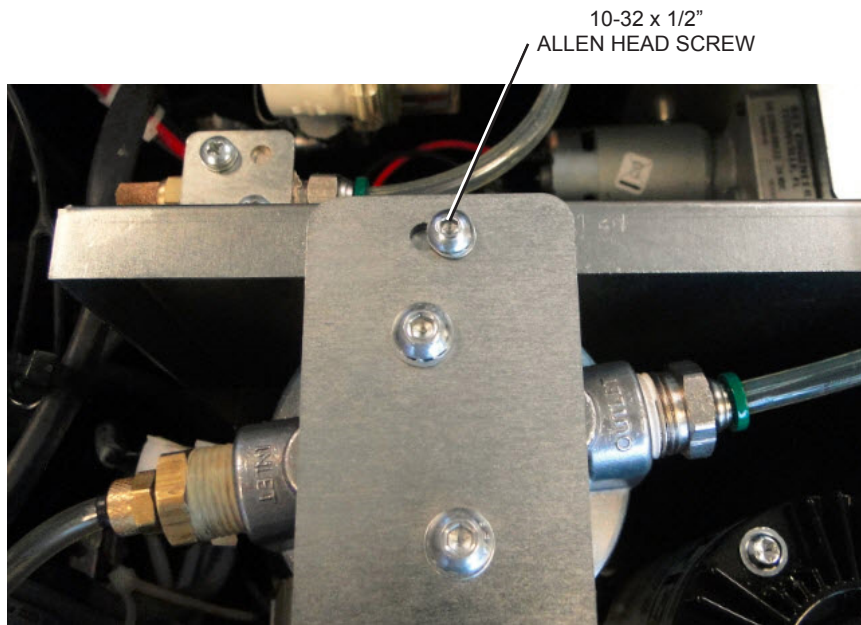

Figure 1
3. Remove the small 10-32 x 1/2" long Allen head screw that secures the cross bracket to the conditioner pump oil/filter pan. Refer to *Figure 1*.